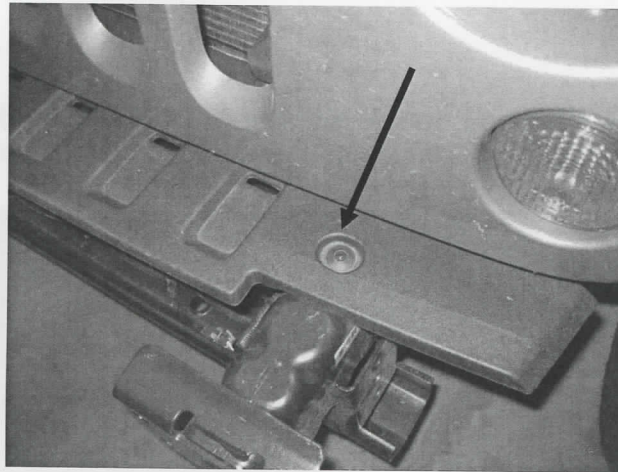

Figure 3
7. Remove two dart clips from top bumper trim plastic using Phillips screwdriver. Set trim aside as it will not be re-used. (Ref. Figure 3)